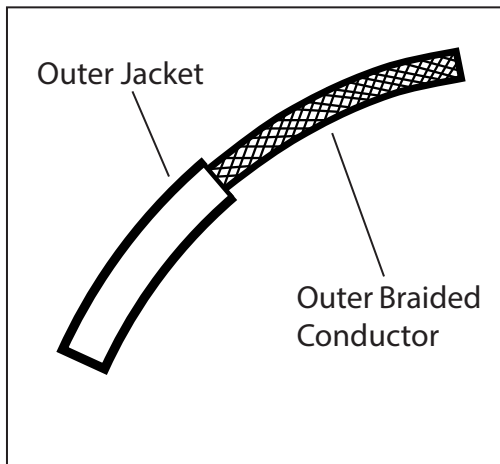

Fig. 1
1. Make a 1" slice along the length of the cord's outer jacket (Fig. 1). **CAUTION: Do not cut through the outer braided conductor.**
2. Carefully strip the outer jacket of the cord and keep the outer braided conductors intact (Fig. 1).